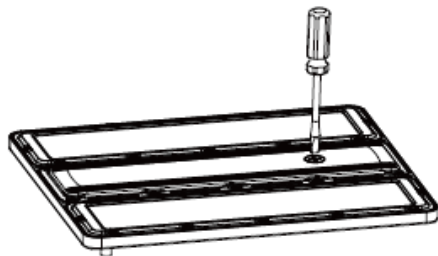
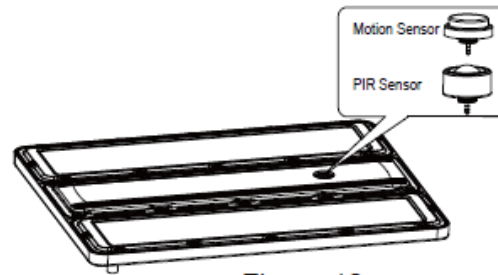
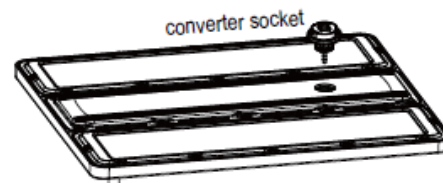

Figure 11
Figure 12
Figure 13
**Extra Accessory: Motion Sensor/PIR Sensor:** (Fig. 11, Fig. 12 and Fig. 13)